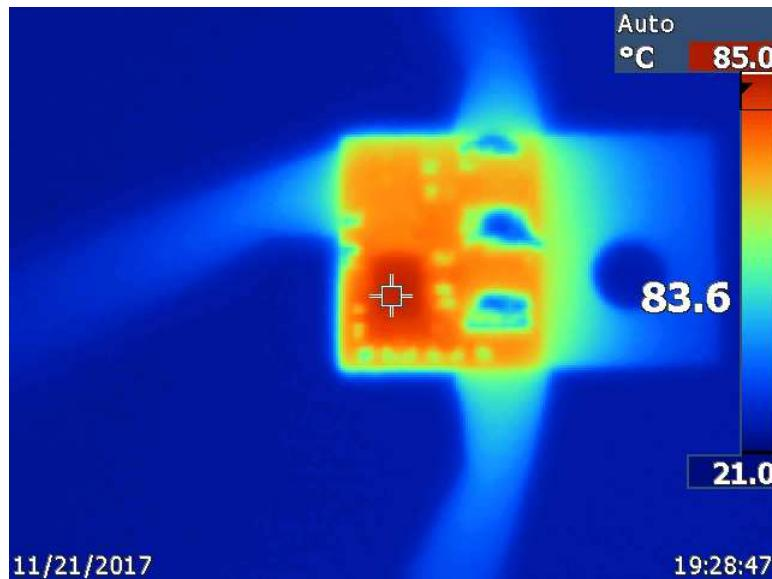

图 17. Thermal Image at 24 V_{IN} , 5V_{OUT} , 600 mA I_{OUT}
The infrared (IR) thermal image in 图 17 was taken at the steady state with 24 V_{IN} and the LMR36006 output at a load of 600 mA (no airflow). The ambient temperature is approximately 22°C. The maximum IC temperature is 85°C.